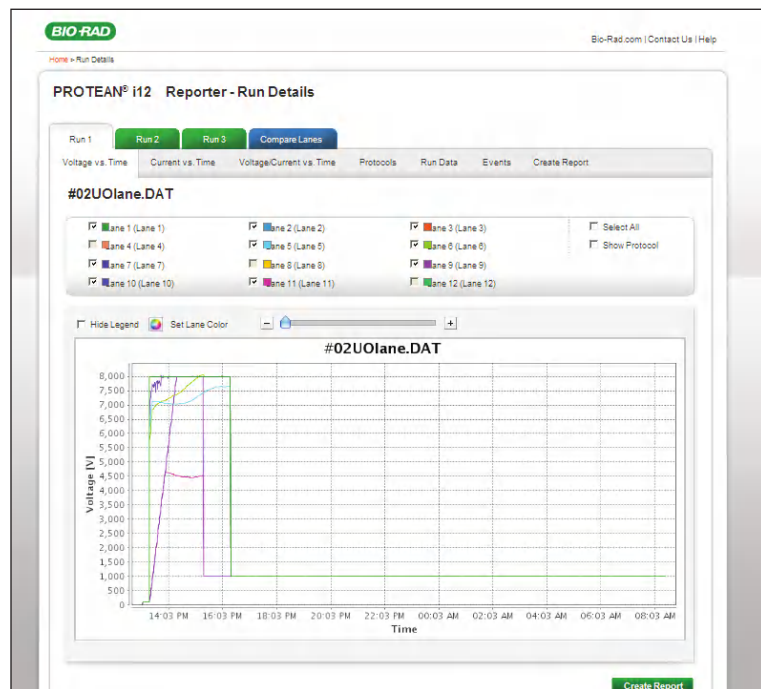

Fig. 6.2. PROTEAN i12 Reporter Run Details screen.
4. Select the files and click **Upload**. The Run Details screen opens. The data appear under tabs across the top of the page (Figure 6.2). If multiple data files are uploaded, the **Compare Lanes** tab also appears.
To view the data, select the run and the viewing option in the Run Details screen (Figure 6.2):